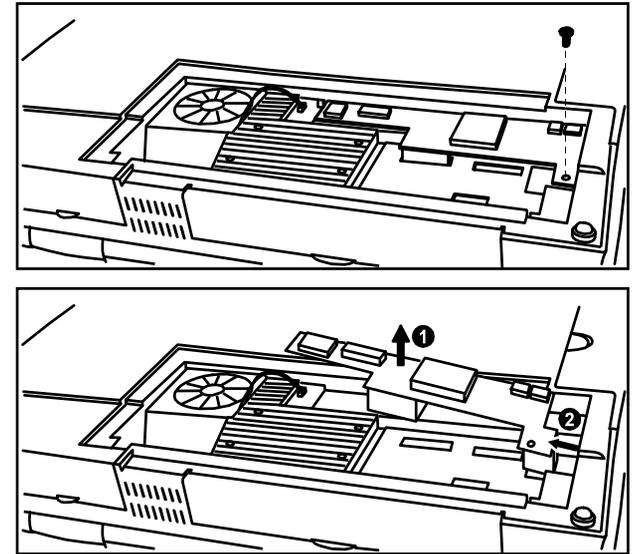

Figure 7-20. Removing the Fax/Modem/Voice Card
1. HOLD THE FAX/MODEM/VOICE CARD AT AN ANGLE SO THAT THE PHONE LINE CONNECTOR IS POINTED TOWARDS THE OPENING ON THE NOTEBOOK. INSERT THE PHONE LINE CONNECTOR INTO THE OPENING AND PRESS THE OTHER END TO PLUG THE OTHER CONNECTOR INTO THE SOCKET ON THE SYSTEM BOARD. FASTEN ONE SCREW TO SECURE THE CARD IN PLACE.( ref fig 7-20)